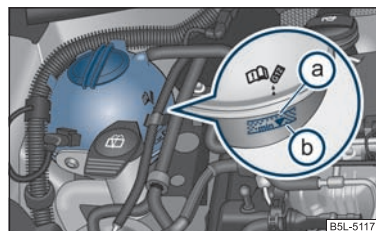

Fig. 168 Engine compartment: Coolant expansion bottle
- Check the level of coolant in the coolant expansion bottle → fig. 168. When the engine is cold, the coolant level must lie between the (a) and (b) markings. The level may also rise slightly above the (a) (MAX) marking when the engine is warm.
- Place a cloth over the cap of the coolant expansion reservoir ⇒ page 198, fig. 168 and unscrew the cap **carefully** by turning it to the left ⇒ .
Do not fill the coolant above the mark  (max.) ⇒ page 198, fig. 168! Excess coolant which is heated up is forced out of the cooling system through the pressure relief valve in the cap of the coolant compensation bottle.